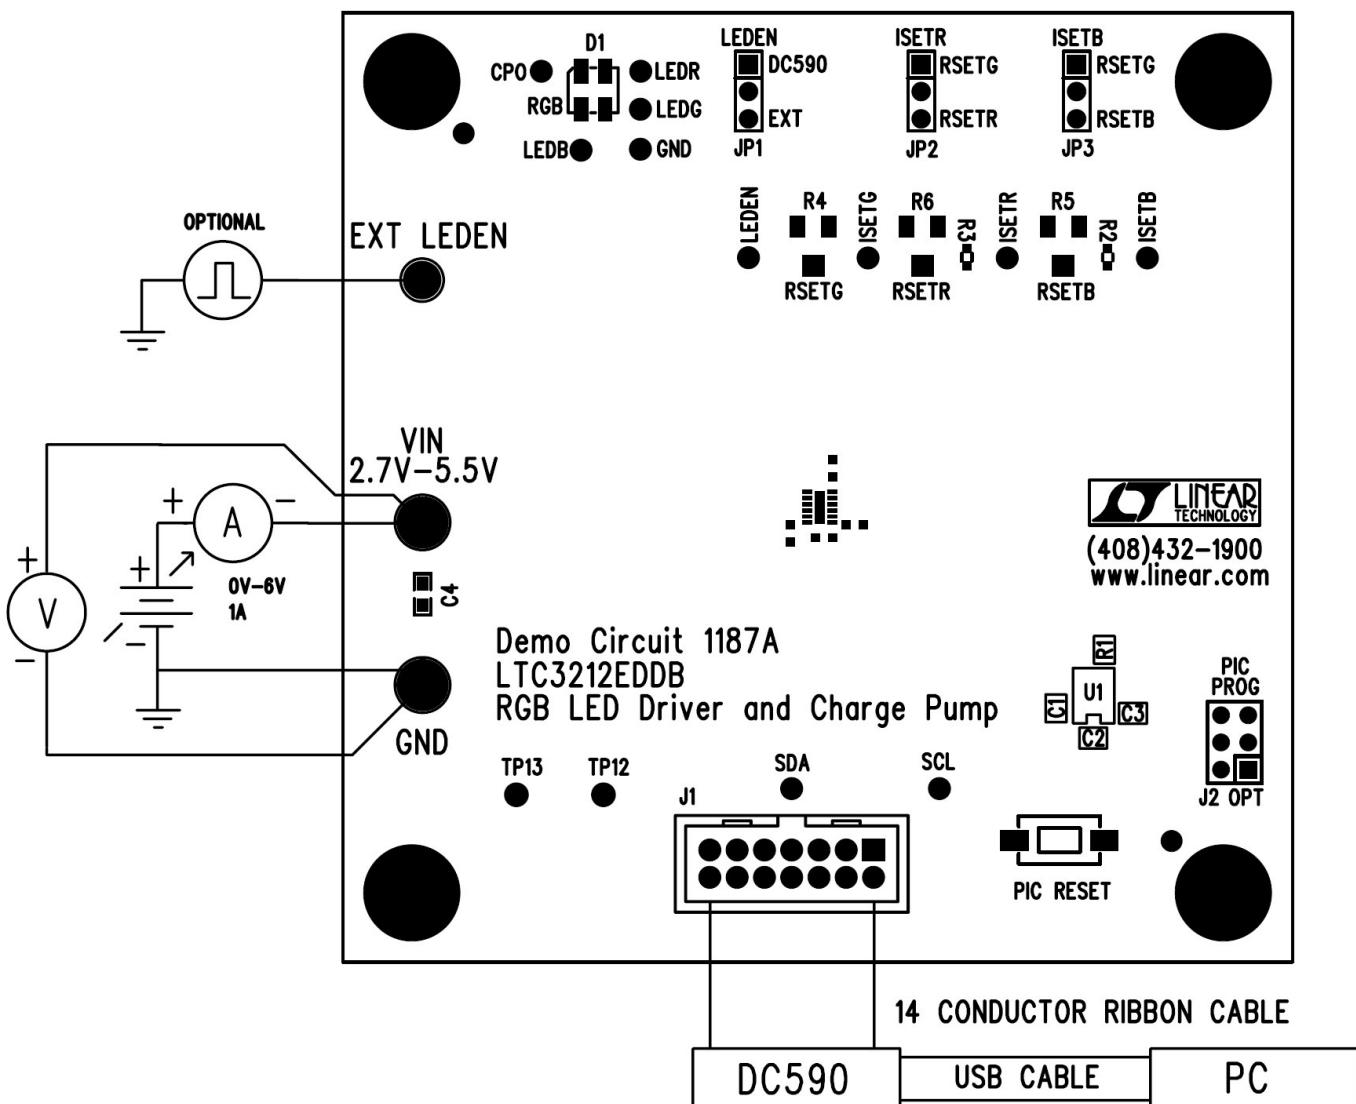

Figure 1. Proper Measurement Equipment Setup
Demonstration circuit 1187 is easy to set up to evaluate the performance of the LTC3212. Refer to Figure 1 for proper measurement equipment setup and follow the procedure below:
**6.** Connect DC1187 to the DC590 USB Serial Controller using the supplied 14-conductor ribbon cable as shown in Figure 1.
**7.** With power off, connect the input power supply to VIN and GND with a series ammeter and a voltmeter as shown in Figure 1.